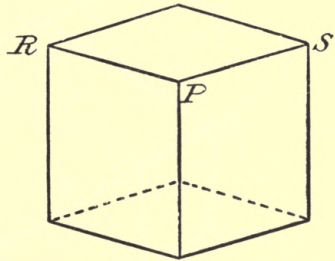

Fig. 71.
70. The elevation then appears as at F , in which $a b$ and $c d$ represent the faces of the cube, and appear of equal width. If, now, we take our point of view not only to the right of the object, but also higher, the vertical lines will be foreshortened also, the upper surface will come into view, and the cube will appear as in Fig. 71. If the point of view be taken still higher, the edge $P Q$